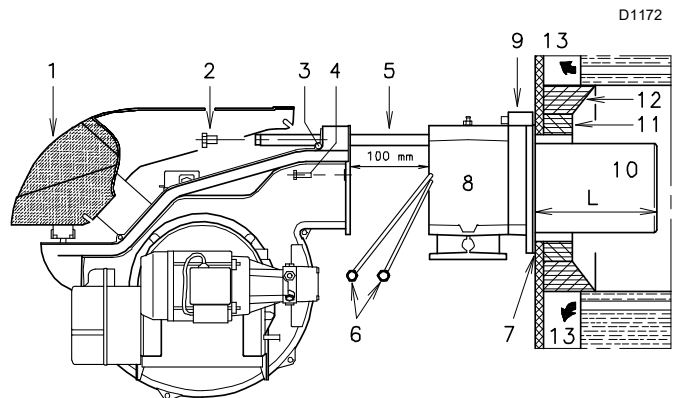
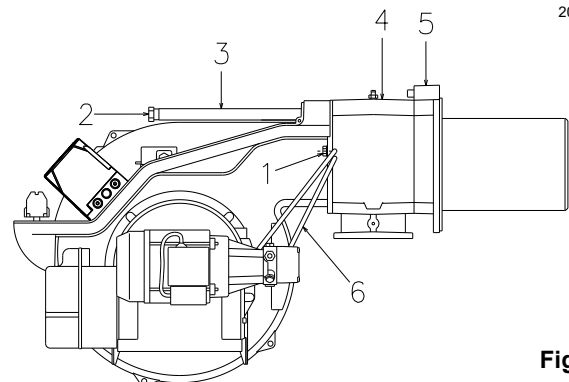

Fig. 11
Fig. 17
Separate the combustion head from the rest of the burner (Fig. 11):
Once this operation (if necessary) has been carried out, fix the flange 9)(Fig. 11 on page 16) to the boiler plate, interposing the insulating gasket 7)(Fig. 11 on page 16) supplied. Use the 4 screws, also supplied with the unit, after protecting the thread with anti-seizing product.
- Reassemble the burner on the guides 3)(Fig. 17) at about 100 mm from the pipe coupling 4), burner in the position shown in Fig. 11 on page 16;
- insert the electrode cables and then slide the burner up to the pipe coupling, the burner in the position indicated in Fig. 17
- refit screws 2)(Fig. 17) on slide bars 3);
- reconnect the light oil pipes by screwing the two fittings 6)(Fig. 11 on page 16).